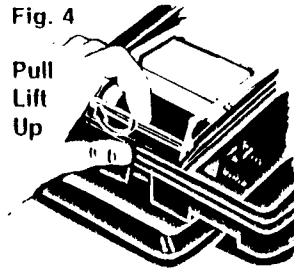

Fig. 5
- With strip chart roll not in recorder, locate star wheel. See fig. 5 or 6.